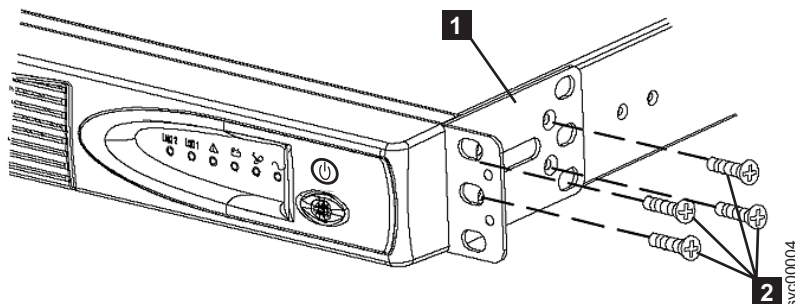

Figure 326. Installing the support rails for a 2145 UPS-1U into the rack
3. Attach the long side of a mounting bracket **1** to each side of the 2145 UPS-1U using four M3 × 6 screws **2** for each bracket, as shown in Figure 326.